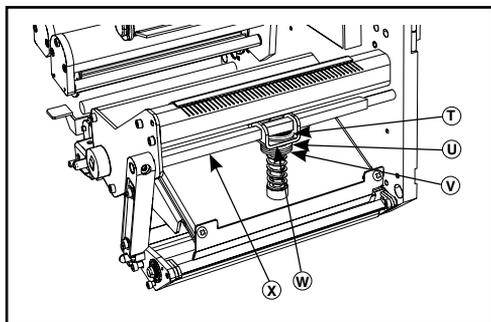

Figure 9
If the darkness setting (burn duration) is set properly, but printing is too light or if the image shows signs of bleeding or swelling, printhead pressure may need to be adjusted. Refer to Figure 9 (right-hand unit shown) and set the position of the adjusting nut (V) so that when the locking nut (U) is tightened, it is approximately 0.4" (10 mm) from the yoke (W). Use the lowest pressure possible that provides the desired print quality.
3. Loosen the locking nut (U) on the threaded shaft of the toggle assembly by rotating it counterclockwise.
4. Rotate the adjusting nut (V) clockwise to increase or counterclockwise to decrease the spring pressure.
6. When print quality is acceptable, hold the adjusting nut (V) in position, and tighten the locking nut (U) against it.